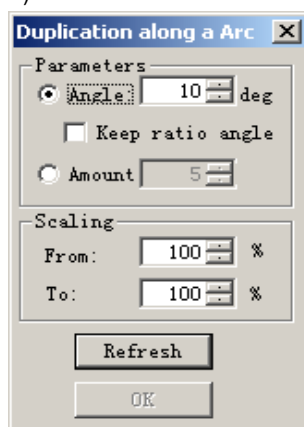

Fig. 6-43
3. A dialog is displayed. (Fig. 6-43)